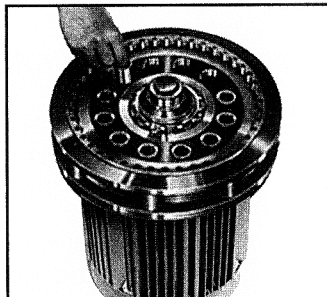

Fig. B-23
4. Insert the eccentric bearing by rapping with a wooden or hard rubber mallet (Fig. B-23).